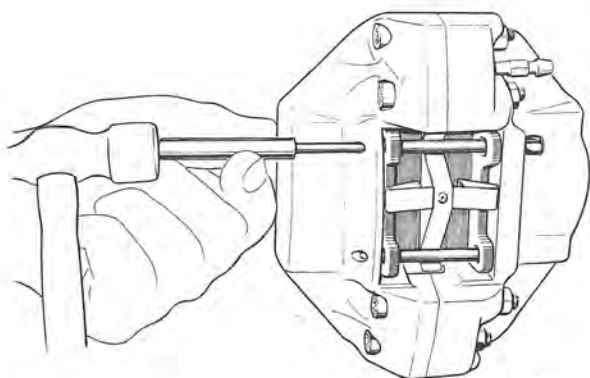

Fig. 5-14. Removing guide pin
3. Tap out the upper guide pin with a drift with diameter 2.5 mm (9/64"), see Fig. 5-14. Take out the tensioning spring. Tap out the lower guide pin.